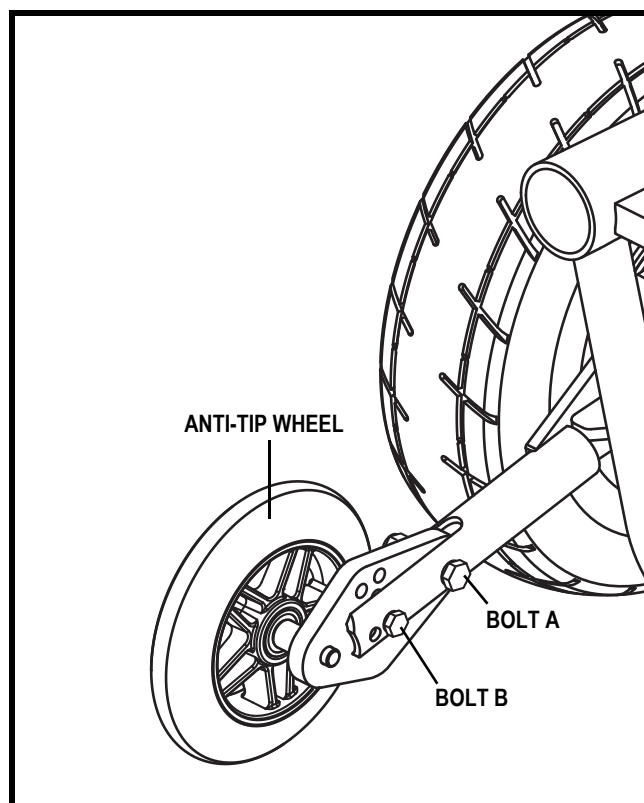

Figure 27. Anti-tip Wheel Assembly
1. Loosen bolt A. See figure 27.